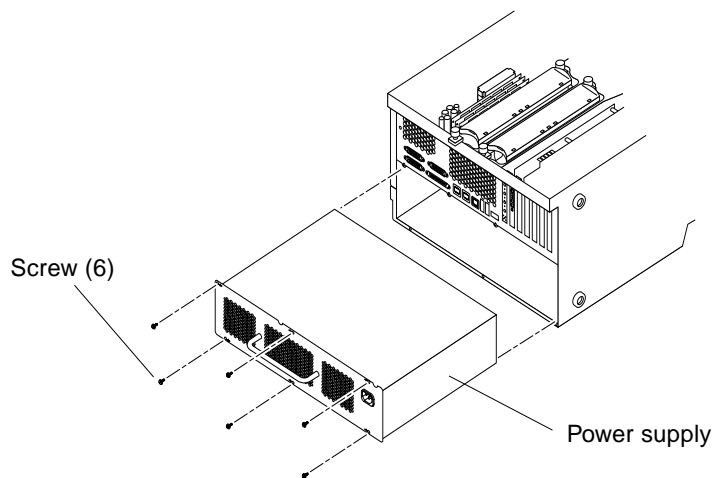

FIGURE 6-3 Removing and Replacing the Connectors for the Power Supply Assembly
4. Using a No. 2 Phillips screwdriver, remove the six screws securing the power supply assembly to the chassis back panel (FIGURE 6-3).
7. Using a No. 2 Phillips screwdriver, replace the six screws securing the power supply assembly to the chassis back panel (FIGURE 6-3).